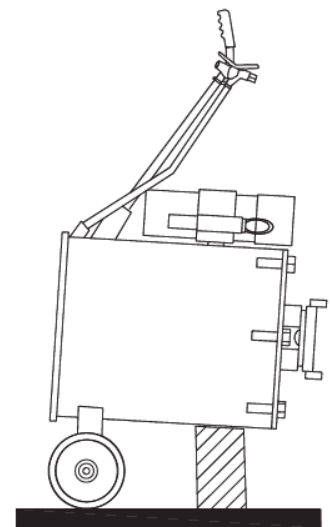

Figure 3
When the jack is not in use, tip it forward until it rests on the wheels and use extra support to hold the jack as shown in Figure 3 (refer page 8). This allows trapped water to drain from inside the cylinder.
6. When the jack is not in use, tip it forward until it rests on the wheel and use the extra support load the hold the jack as shown in Figure 3. This allows trapped water to drain from inside the cylinder.